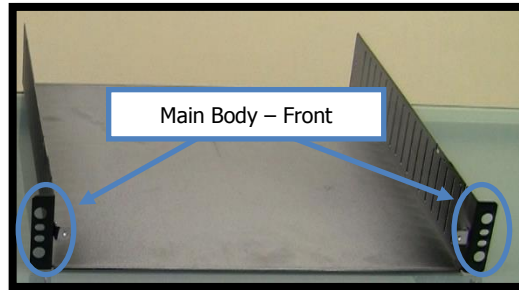

Figure 4.1. STB Shelf Assembly - Main Body Front.
- a. Lay the Main Body of STB Shelf Assembly Unit on a hard and smooth surface. Identify the Front of the Main Body by the wings as indicated by Figure 4.1.